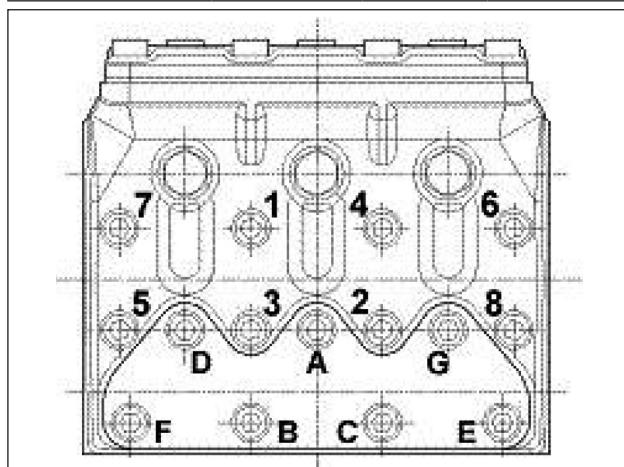

Fig. 24
\*\* The head fixing screws exploded view pos. 39 must be tightened with a torque wrench, lubricating the threaded shank, respecting the order shown in the diagram in Fig. 24.
\*\*\* The valve cover fixing screws exploded view pos. 40 must be tightened with a torque wrench, lubricating the threaded shank, respecting the order shown in the diagram in Fig. 24.